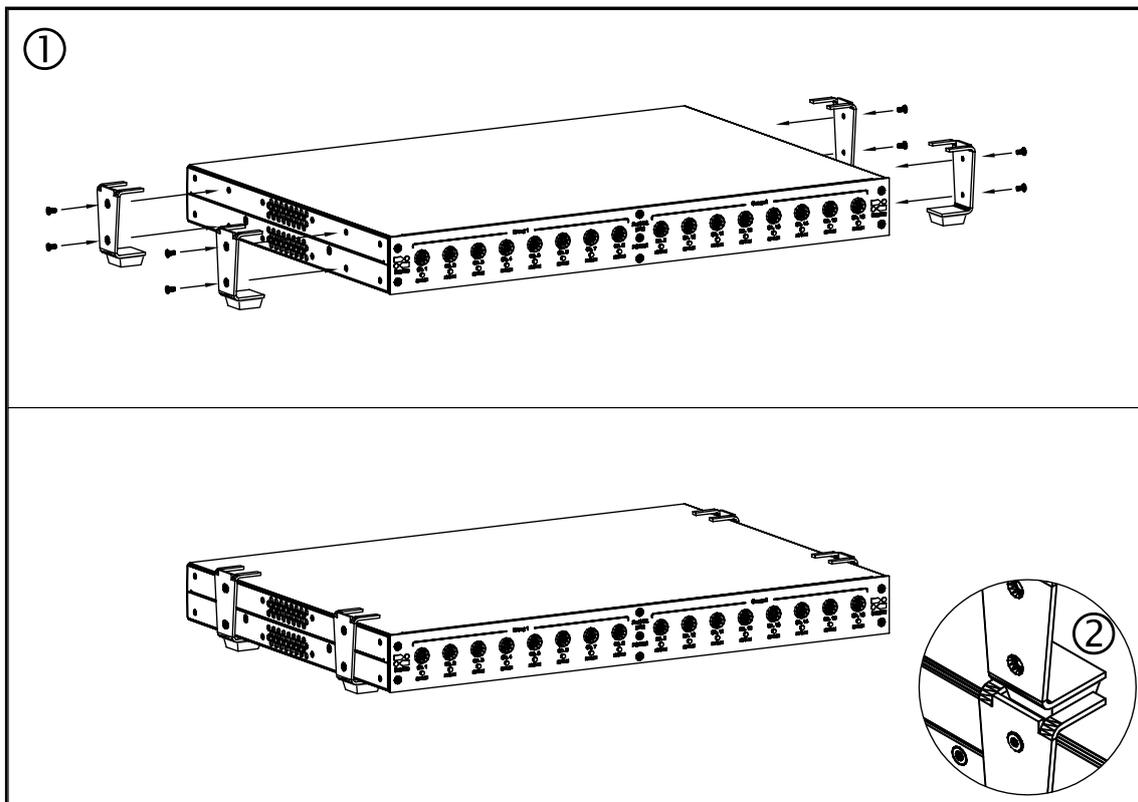

Figure 9 - Attaching the ProDAQ 5726 Stackable Desktop Feet Set
To attach the stackable feet to the ProDAQ 5716 enclosure, use 2 pieces M3 x 6mm countersunk screws per feet as shown in Figure 9, ①.
To securely stack several ProDAQ 5716, place the rubber feet of the upper ProDAQ 5716 into the brace provided by the feet below (see Figure 9, ②).